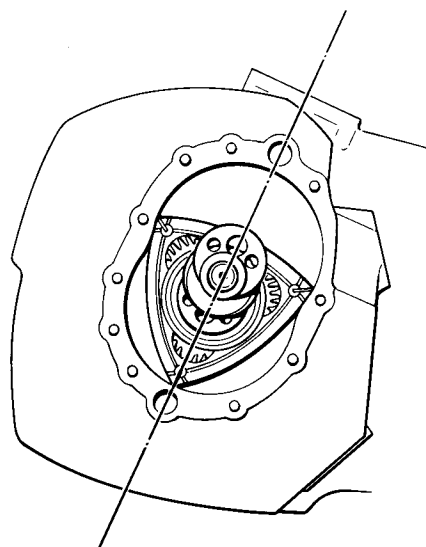
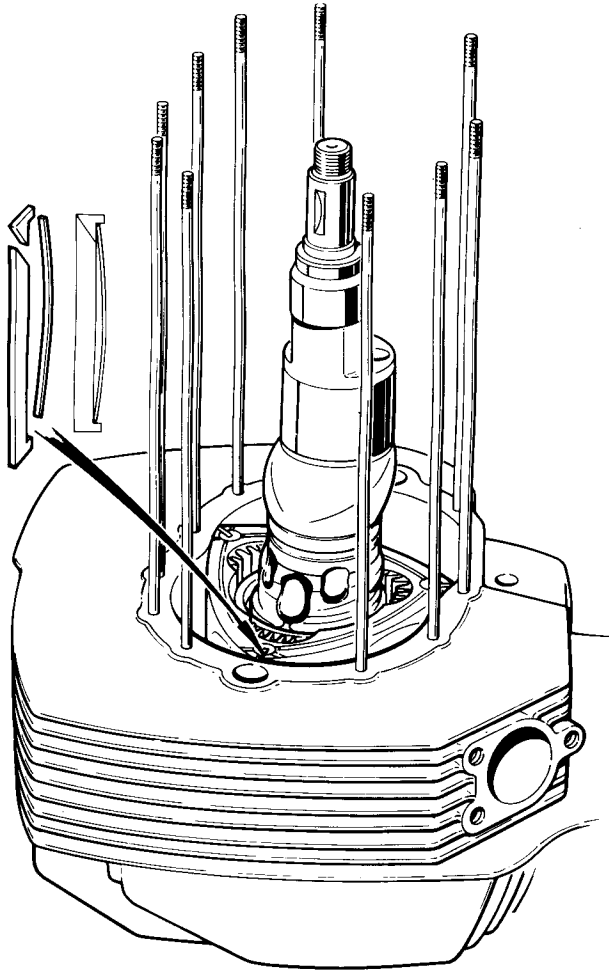

Fig. B34. Positioning the first rotor and eccentric shaft.
Fig. B35. Fitting the apex seals, seal springs and apex seal corner pieces
Lubricate the right end plate running surface with engine oil. The rotor shaft and rotor should now be inserted (gear side down) through the roller bearing to engage the stationary gear, with the shaft centre cooling holes aligned with the rotor apex and the top dowel hole as shown in Fig B34
Smear the mating surfaces of the right end plate and right rotor housing with the recommended jointing compound and fit the housing in place on the studs. Re-fit the top and bottom locating dowels in the rotor housing (if removed). Turn the rotor shaft through 90° to facilitate the subsequent assembly of the intermediate plate and fit the apex seals and seal springs with the convex face towards the centre of the rotor (ie. the ends of the spring should contact the ends of the apex seal – see Fig B35), and slide into position between the rotor slot and the apex seals. Finally position the apex seal corner pieces. Push the apex seal corner pieces home, as these will be held in place by apex seal spring pressure. Smear jointing compound onto the intermediate plate joint face, lubricate the intermediate plate running surface with engine oil and set the throttle levers pointing to the top of the engine (to clear the oil pipes). Assemble the plate over the studs, ensuring the two location dowels are fully engaged, checking all seals are in position before finally pushing home the intermediate plate. Rotate the rotor shaft through a further 90° to align the centre air passage with the bottom dowel. Carefully offer up and assemble the second rotor (LH) gear side uppermost to the eccentric shaft, with one of the apex slots aligned to the lower dowel centre line, in a similar manner to that indicated in Fig B34.
Check the rotor side seals are still located correctly in the grooves, and assemble the apex seals (again as shown in Fig B35). Slide the seal springs into position with the convex side towards the rotor. Fit the seal corner pieces, pushing them home and closing the assembly by pressing the seal pins against their seal springs. Apply jointing compound to the mating surfaces and having lubricated the intermediate and end plate running surfaces, refit the LH end plate. Fit the spacers over the end plate studs (all but top two). Fit the nuts and torque load to 10lbs/ft. (1.4 KgM).